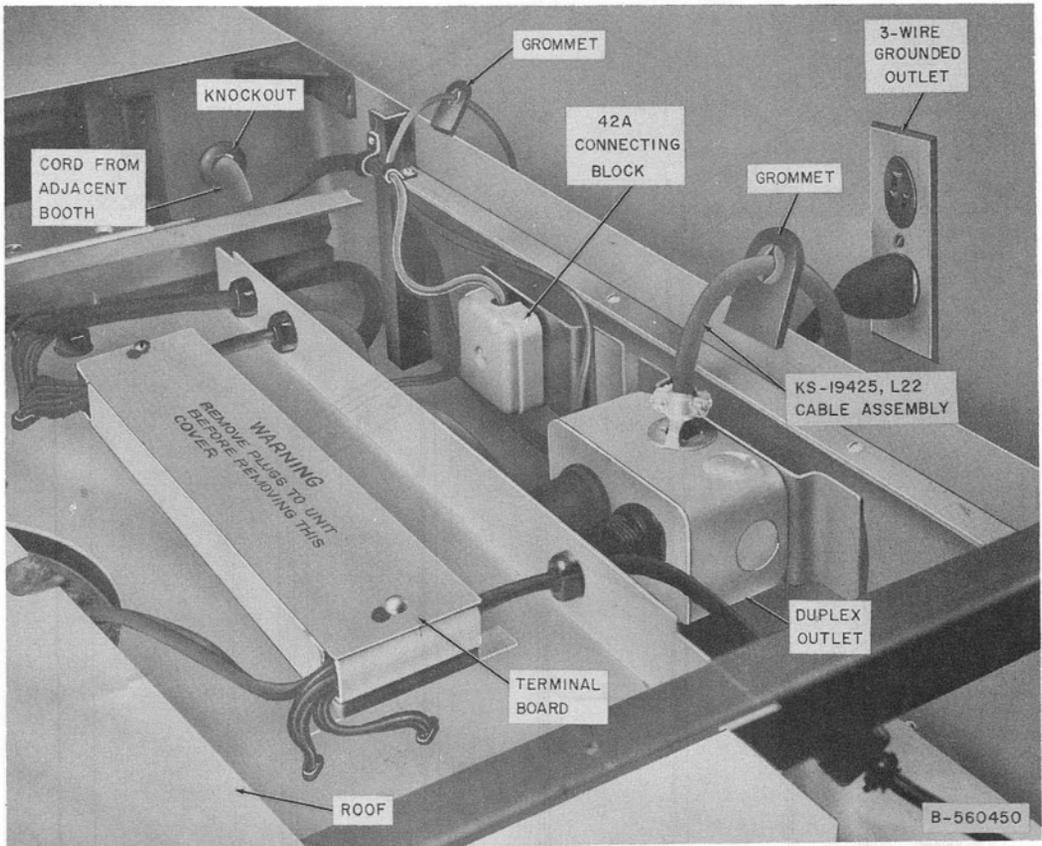

Fig. 6—Partial View of Ceiling Area
2.11 Power for lights and blower is supplied by means of a KS-19425, List 22 cable assembly (Fig. 6). The cable is furnished as part of the booth assembly for plugging into the power-service outlet. Where local regulations permit, a clamp may be used to prevent accidental removal of cable assembly from power-service outlet.
2.13 A 42A connecting block (Fig. 6) is included as part of the booth; however, a 123A1A protector may be used if required but must be ordered separately.
3.12 To make wiring accessible, remove dome assembly and work from inside of booth or remove the roof retaining screws and slide roof forward as shown in Fig. 6.
3.13 Insert station wire through roof grommet, through the cable clamp, and terminate on the 42A connecting block (Fig. 6) or 123A1A protector.
3.21 Internal electrical wiring can be checked on the terminal board located on ceiling above the light fixture (Fig. 6).